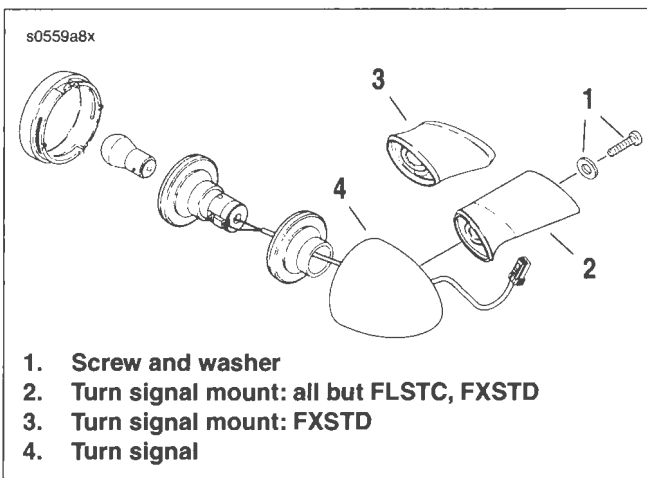

Figure 8-64. Rear Turn Signals: All But FLSTC
- b. For all other models, see Figure 8-64. Detach fender support hardware. See 2.34 REAR FENDER: FXST/FXSTB/FXSTC. Remove screw and washer (1) from inside fender support to detach turn signal from mount (2).
4. See Figure 8-64. Detach turn signal from mount (2) by removing screw and washer (1) from inside of fender support.
- a. Attach signal to fender support using screw and washer (1). Tighten screw to 96-120 **in-lbs** (10.8-13.6 Nm).